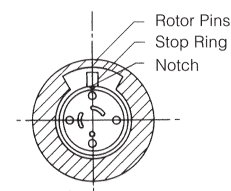

Fig. 7. Correct position of rotor seal (grooves face the stator).
- Line up the new rotor seal as shown in Figure 7. The rotor seal grooves face the stator.